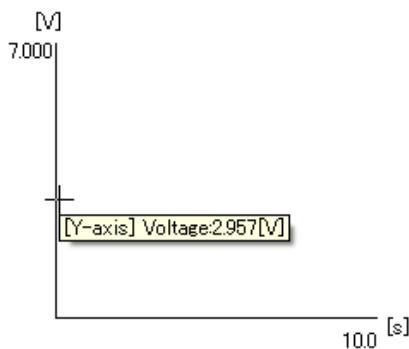

Fig. 4-1 Start Point of the Mouse
- (1) Move the mouse pointer to the Y-axis. This causes the pointer to change to a crosshair (Fig. 4-1).